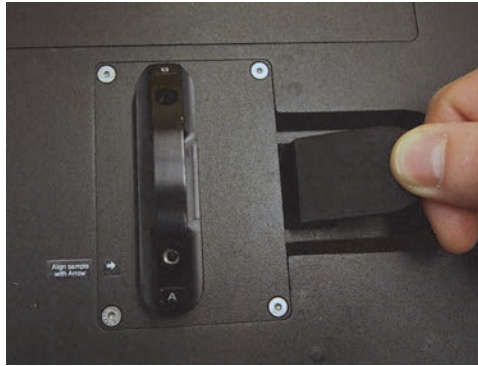

Figure 3-16 Locking the sample carrier down
2. Lock the sample carrier in place by pushing the lever down (see Figure 3-16 on page 54).